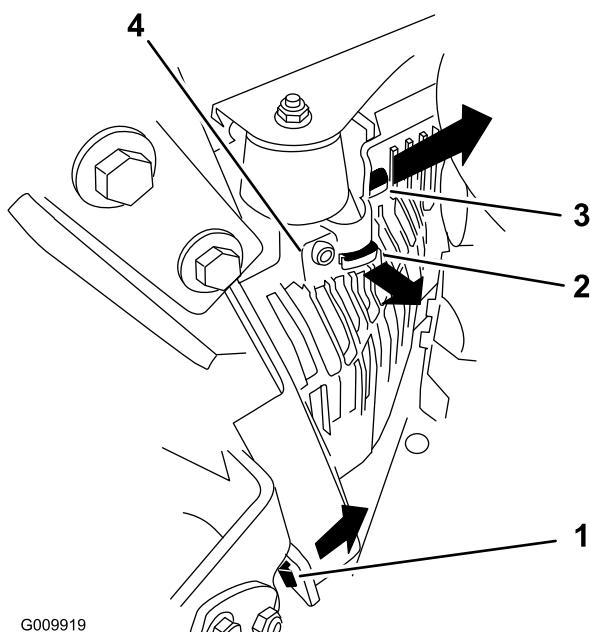

Figure 52
3. Remove the lefthand hydraulic unit shroud in the order listed with Figure 52.
5. Install the lefthand hydraulic unit shroud (Figure 52).